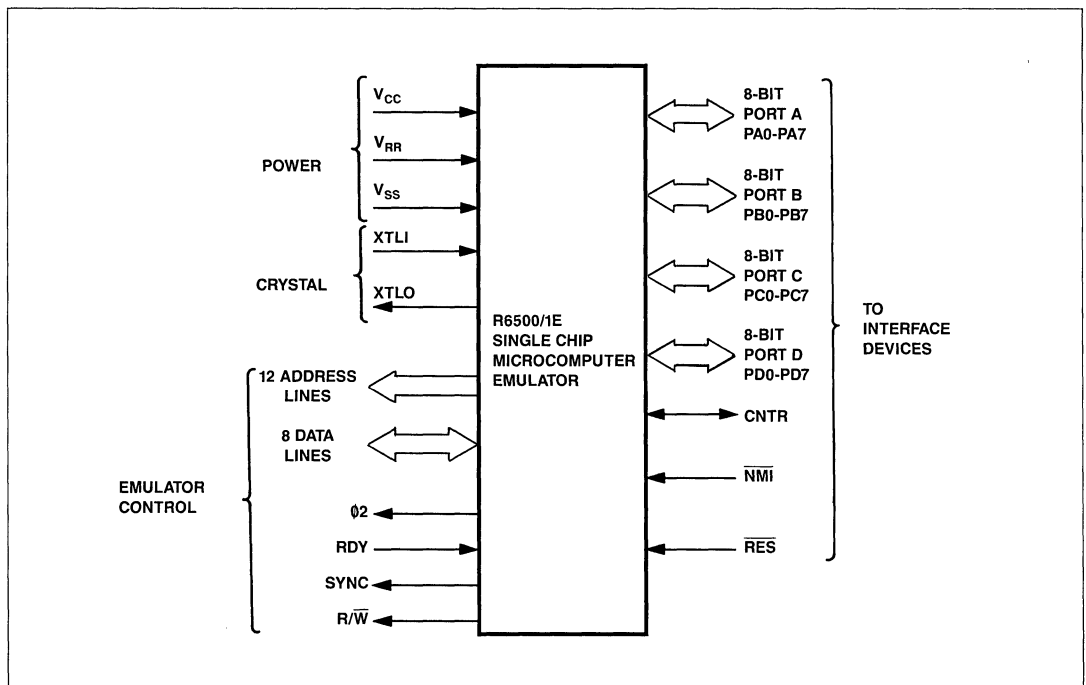

Figure 1. R6500/1E Emulator Interface Diagram
All R6500/1 interface signals are available in the R6500/1E microcomputer plus the additional address (12), data (8), and control (4) lines required to extend the address bus and the data bus external to the device. The R6500/1E emulator unique interface signals are shown in Figure 1 and are described in Table 1. While the pin assignments are different in order to accommodate 64-pin DIP and QUIP packages, the interface characteristics of signals common to the R6500/1 are identical.